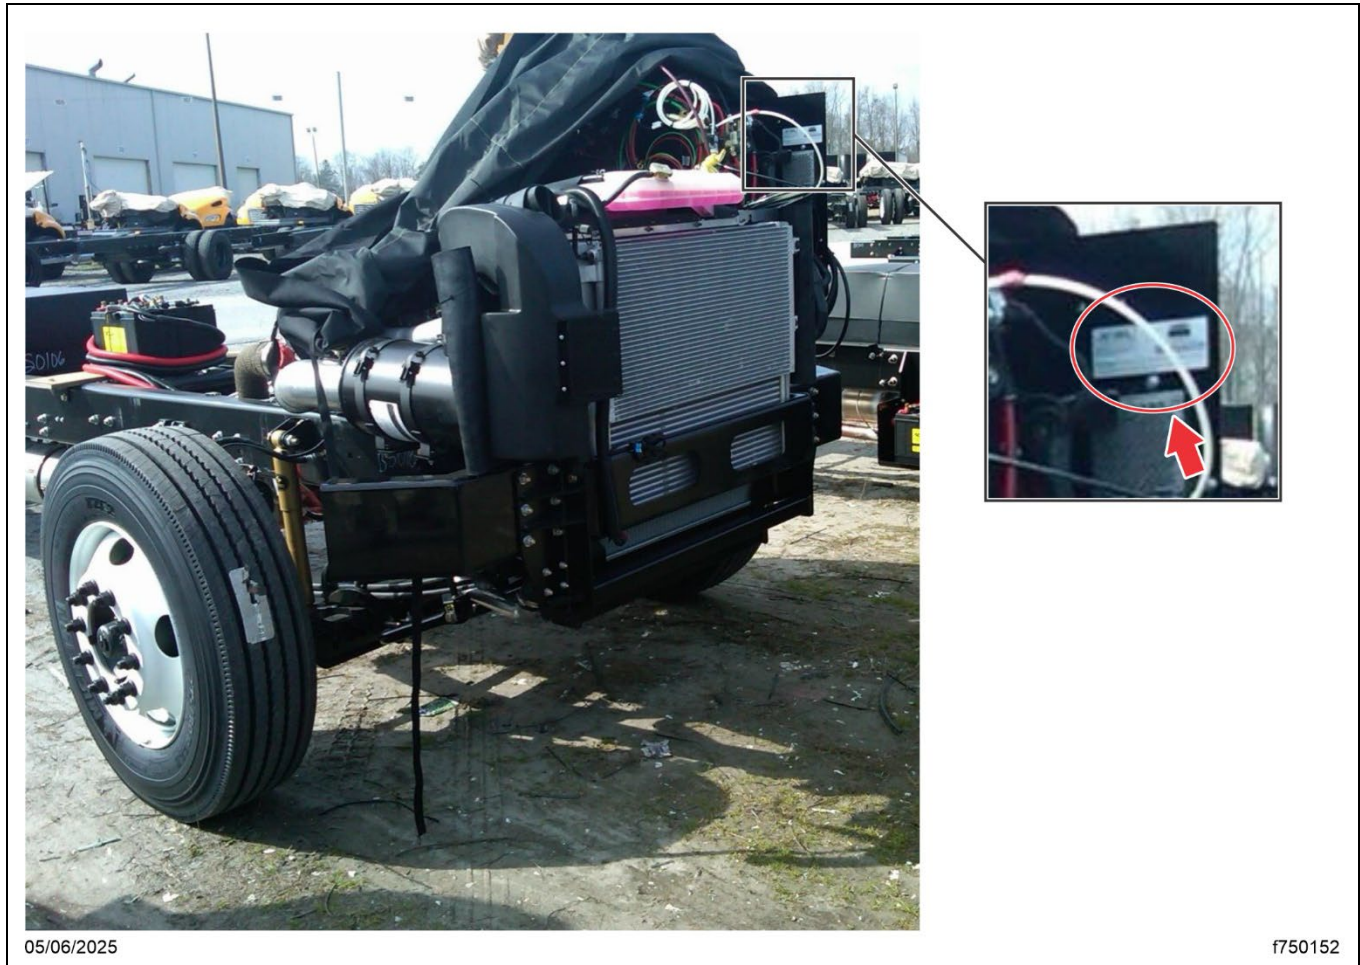

Fig. 3, GHG Label, MBC/Front Engine Motor Homes
- MBC/Front Engine Motor Homes → The label is located on the driver station. See Fig. 3.